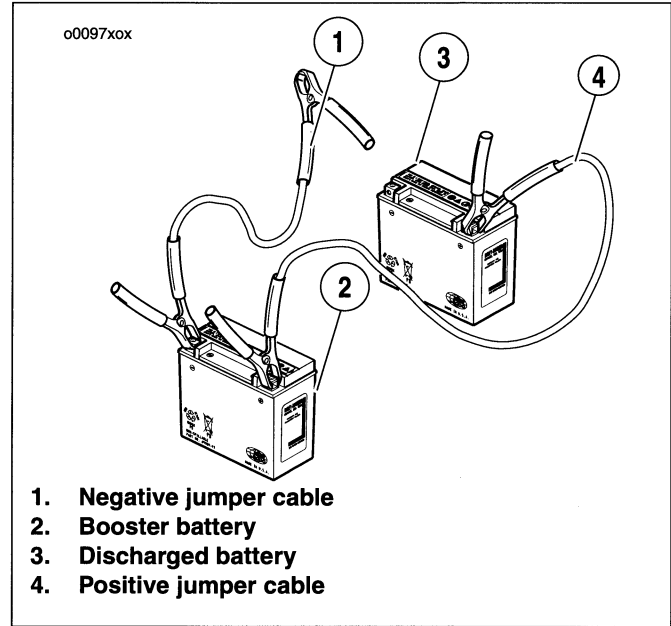

Figure 36. Jump Start Cable Connections
2. See Figure 36. Connect one end of a jumper cable to the DISCHARGED battery positive (+) terminal.